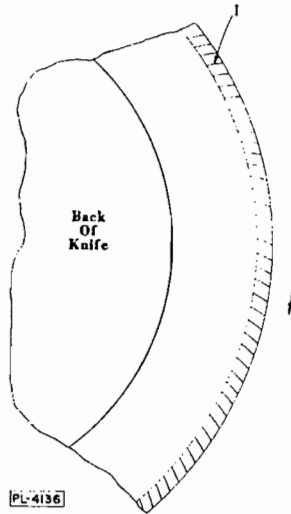

FIG. 6
- l. Check to make sure that the characteristic grind marks (1, Fig. 6) are plainly visible on the ground surface, if not the grinding wheel is not cutting. (Many operators try to sharpen a knife with a grease-loaded stone which will not cut).